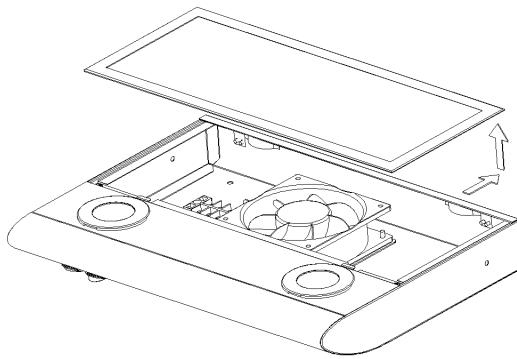

Figure 1
2. Push the filter as the direction of arrow symbol to release it from the cooker hood (see figure 1).
1. Remove filter as shown on Figure 1.